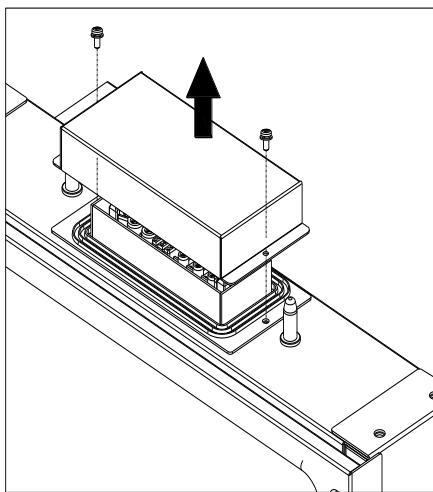

Figure 2.11 - Wiring Box Cover
- ② Remove the cover at the top of the wiring box (see Figure 2.11)